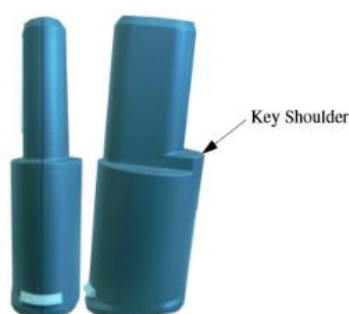

Figure 12: Rear and side views of battery pack showing key.
- 3) Place the battery pack upside down into the charger. Make sure that the key shoulder is in front and the thin side is down (Fig. 12).